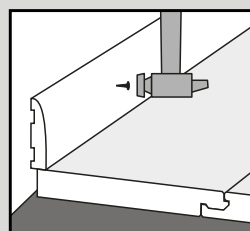

Fig. 9
- Once the floor is installed, remove the spacers; sweep the floor with a soft brush. Fix the skirting or suitable edge trim (available from your local distributor) to cover the expansion gaps. These should be attached to the wall and not the floor, such that the product remains free to expand (Fig. 8 & Fig. 9).